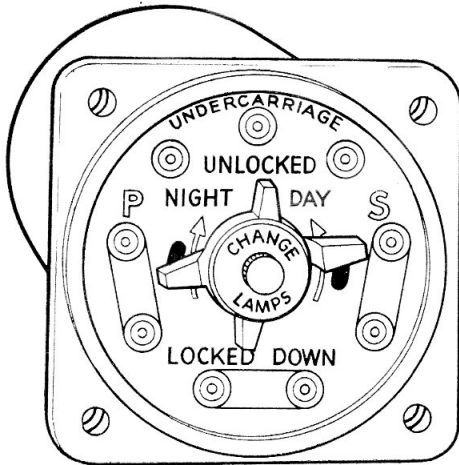

Fig. 1. General view of indicator
3. Fig. 1 shows the indicator with the change lever in the normal daytime position; operation of the lever to the night position brings into use a filter or dimming screen.
4. The indicator (fig. 1) which is housed in a miniature S.A.E. case, comprises two main assemblies, the body, which forms the case, and the lamp housing which also carries the indicator face.